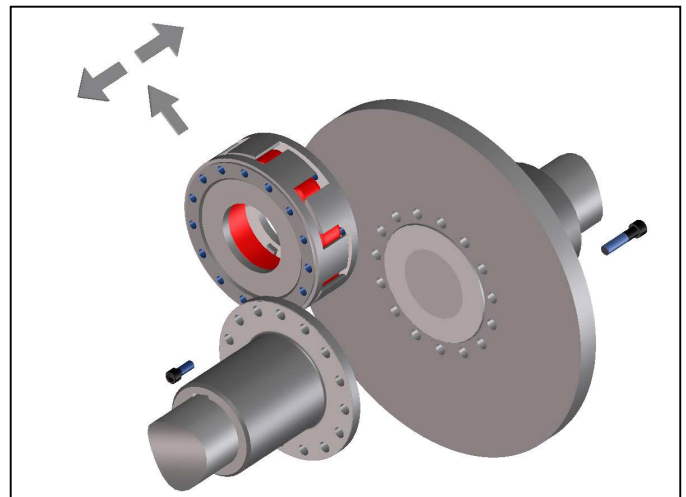

Fig. 15
- Place the intermediate parts in their proper position as marked. Make sure that the parts do not get canted at the centering seats when joining them (Fig. 15).